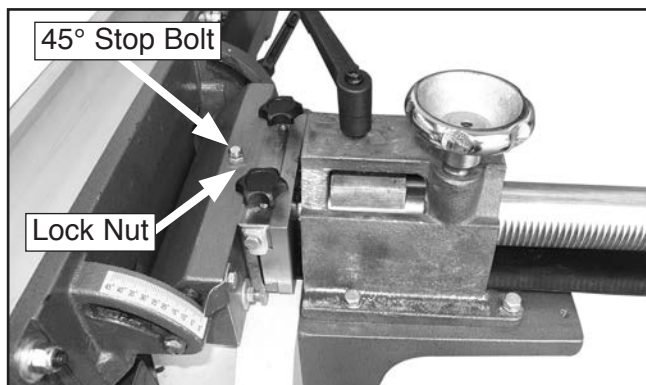

Figure 83. Adjusting fence 45° outward.
2. Loosen the lock nut on the 45° fence stop bolt (**Figure 83**).